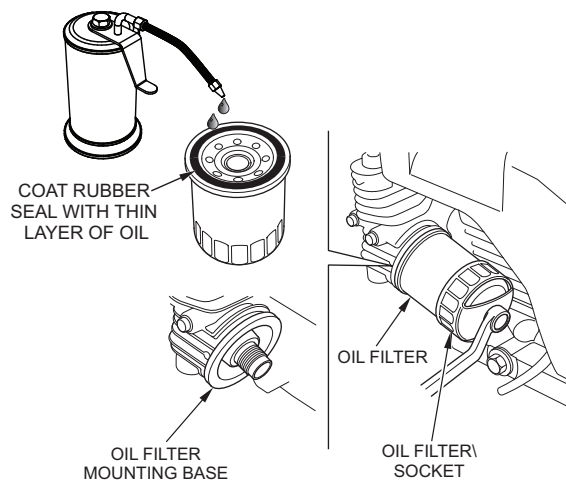

**Figure 28. Draining Engine Oil**
- Drain the engine oil into a suitable container when the oil is warm as shown in Figure 28.